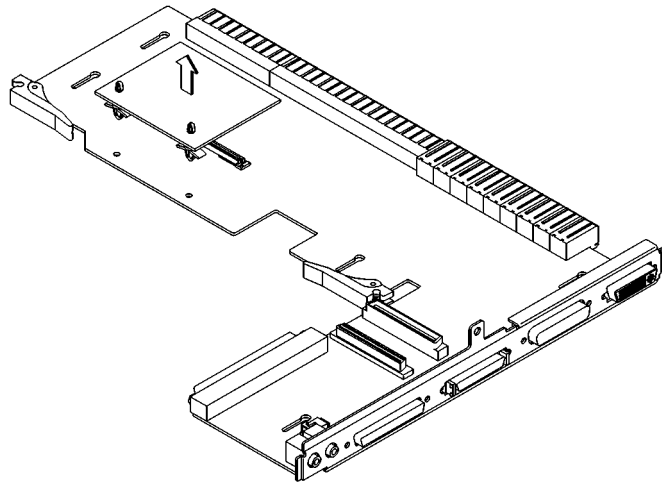

Figure 48 **Removing the EGRAM Board**
- 1 Locate the EGRAM board on the I/O board, as shown in Figure 48.
- 2** Use a small needle nose plier to squeeze the tabs on the standoffs while lifting gently on each end of the EGRAM board until the tabs are disengaged from the top of the board. See Figure 48.